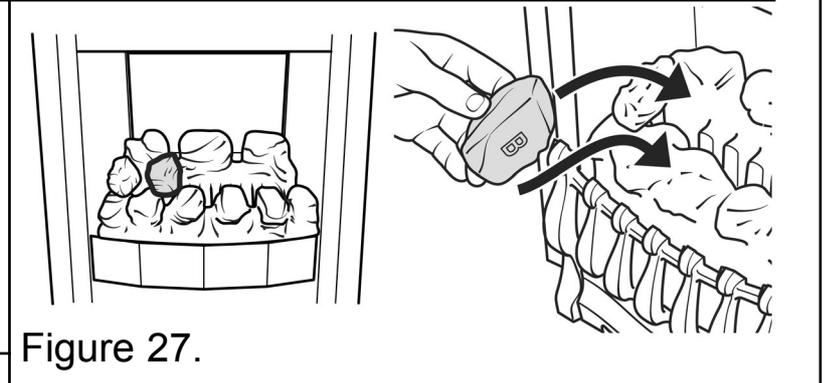

Figure 27.
4. Place a type “B” coal between the front and rear base coals as shown in figure 27. The letter “B” should be upright.